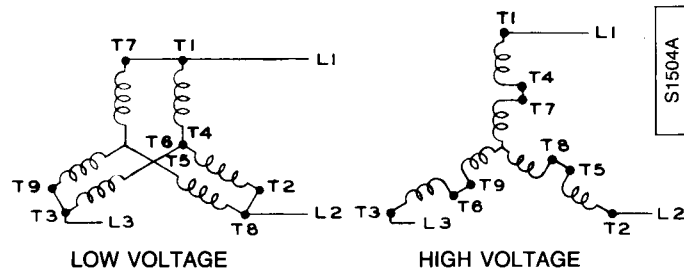

FIGURE 88
- 3. Reconnect the trolley drive motor leads inside the motor junction box. Refer to Table 13 and Figures 88 and 89.
Y-CONNECTED (Figure 88)